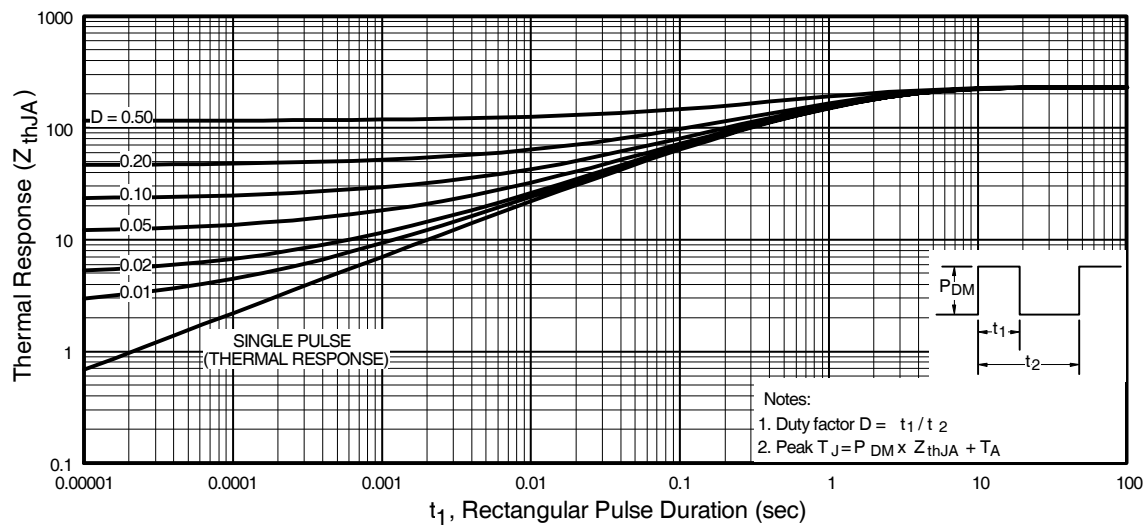

Fig 11. Maximum Effective Transient Thermal Impedance, Junction-to-Ambient
① Repetitive rating; pulse width limited by max. junction temperature. (See fig. 11)
③ Pulse width ≤ 300μs; duty cycle ≤ 2%.
② I_{SD} ≤ -0.60A, di/dt ≤ 110A/μs, V_{DD} ≤ V_{(BR)DSS}, T_J ≤ 150°C
④ Surface mounted on FR-4 board, t ≤ 5sec.